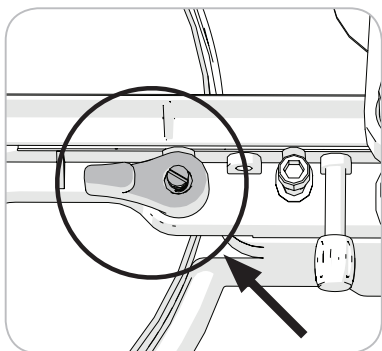

Fig 18
- Loosen the Mitre Locking Screw, (**Fig. 18**) by turning it anti-clockwise.